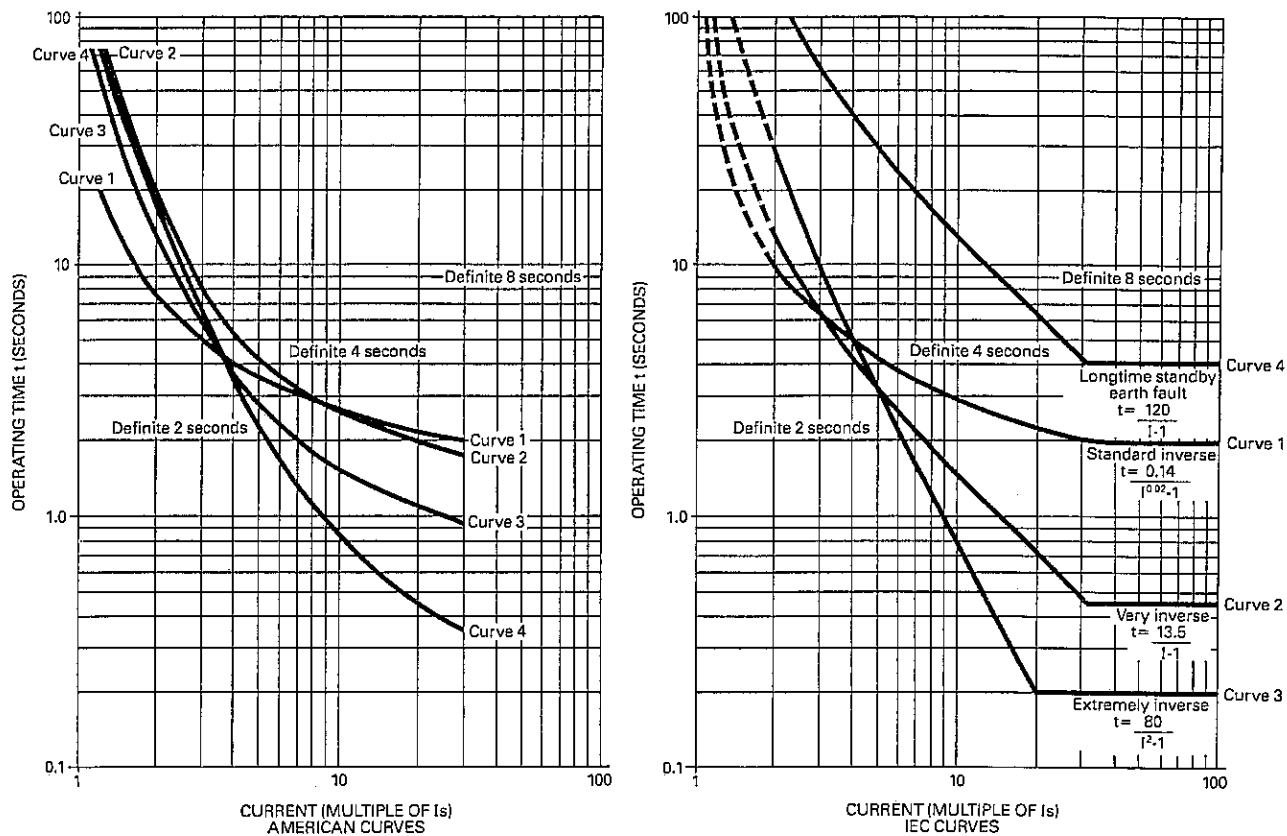

Figure 8. DEF Protection time delay trip times.
- time delayed tripping, either definite time or inverse definite minimum time using a selection of built-in IEC or American curves. See Figure 8.